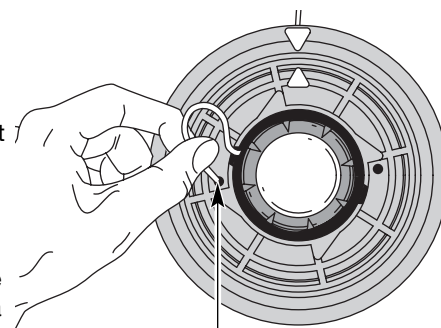

**Fig. 18**
3. Pull old line out of the line loading and line locking holes (Fig. 18 and 19)
loading hole in the inner reel (Fig. 18). Do not bend the line when inserting it into the eyelet.